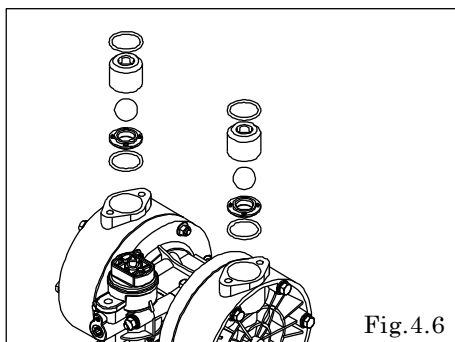

Fig.4.6
- Remove the O ring, valve stopper, ball and valve seat. [Fig.4.6]